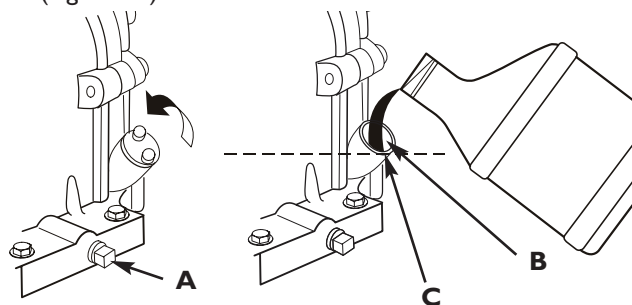

Figure 11 — Change Oil
3. Clean area around oil drain plug (A). The oil drain plug is located at base of engine, opposite carburetor (Figure 11).
6. Slowly pour oil (about 28 oz.) into oil fill opening (B) to the point of overflowing (C) at oil fill cap (Figure 11). DO NOT overfill.